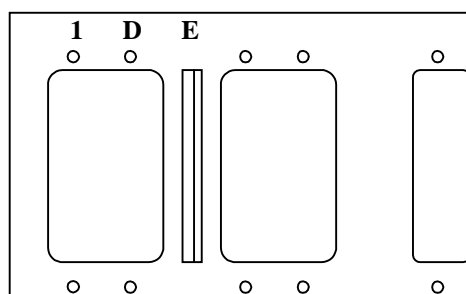

Fig. 2.1.2
- 6 Fill the depositor washing compartment (2) with 1 ml of bidistilled water
- 7 Insert the special strip of absorbent paper in the compartment (3) in position E on the treatment rack
- 9 Place the applicator on the support plate in position D (Fig. 2.1.2)
- 10 Place the supports to be prepared on the support plate (1-3 in Fig. 2.1.2)